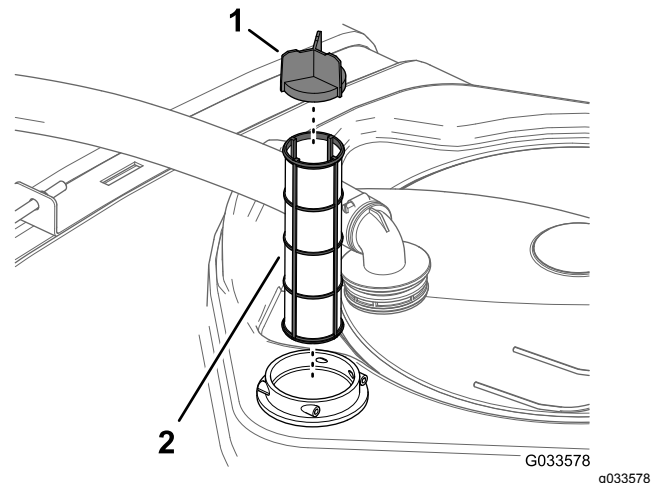

Figure 96
4. Remove the old suction filter from the filter housing in the tank (Figure 96).